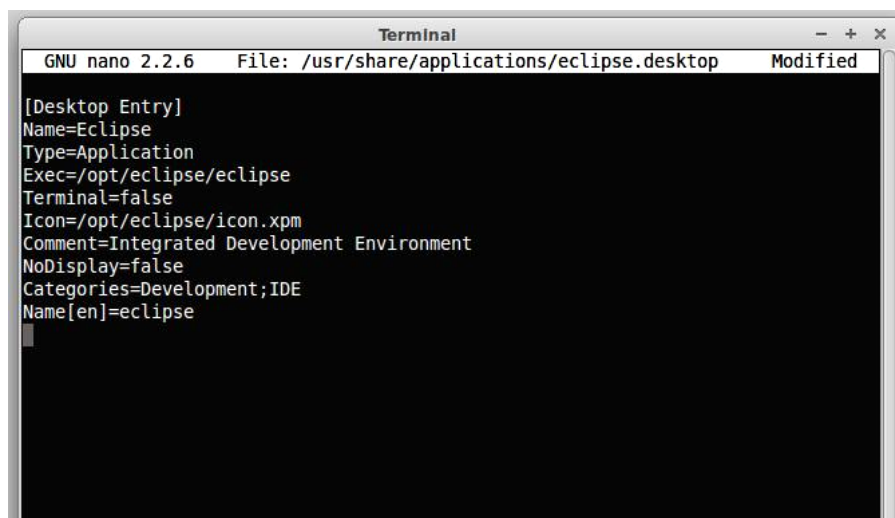

Figure 49: Eclipse Desktop File
- Enter the following text, as shown in Figure 49, and save the file.